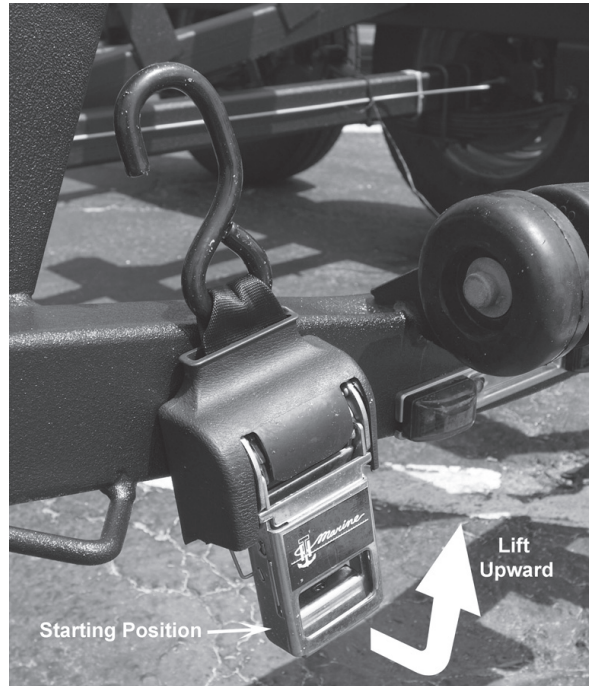

Figure S14: Rear Tie Down Strap - Tightening
2. Return handle to start position and repeat step one. Continue until strap has been sufficiently tightened. See Figure S14.